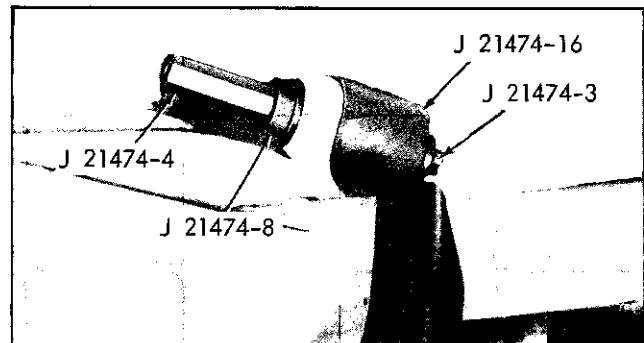

Fig. 4-5 Removing Upper Control Arm Rear Bushing —
2. Arrange tools as shown in Fig. 4-5 and press bushing from axle housing.